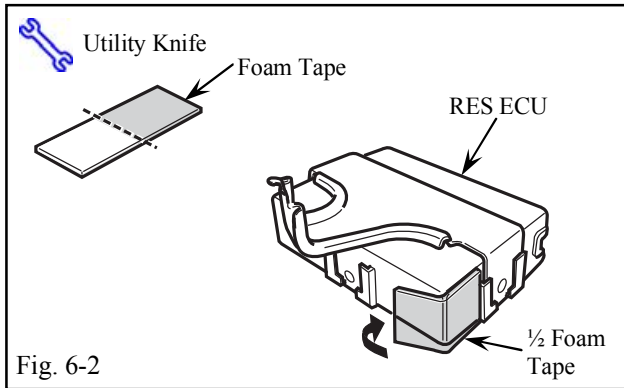
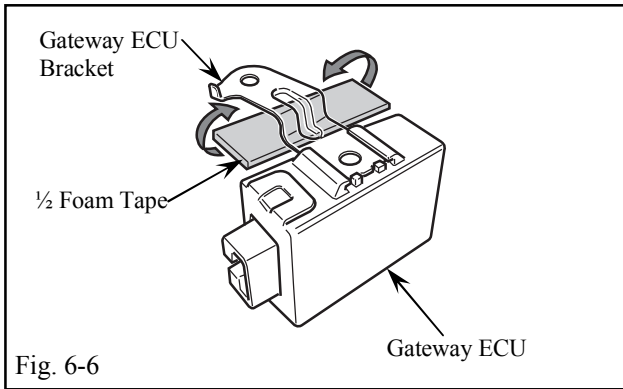

Fig. 6-2
Fig. 6-6
- (b) Cut 1 piece of Foam Tape in half. Apply it to the RES ECU as shown. (Fig. 6-2)
- (1) Do not discard the extra foam tape.
- (i) Using the extra 1/2 of Foam Tape from Fig.6-2 apply it to the Gateway ECU Bracket as shown. (Fig. 6-6)